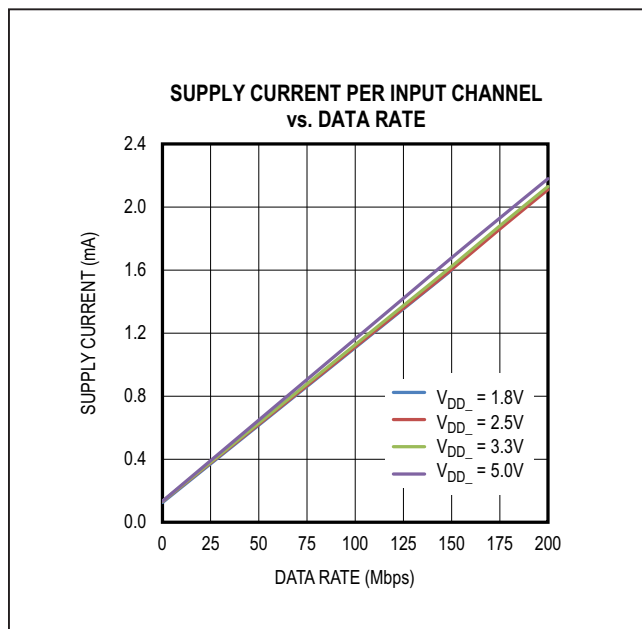
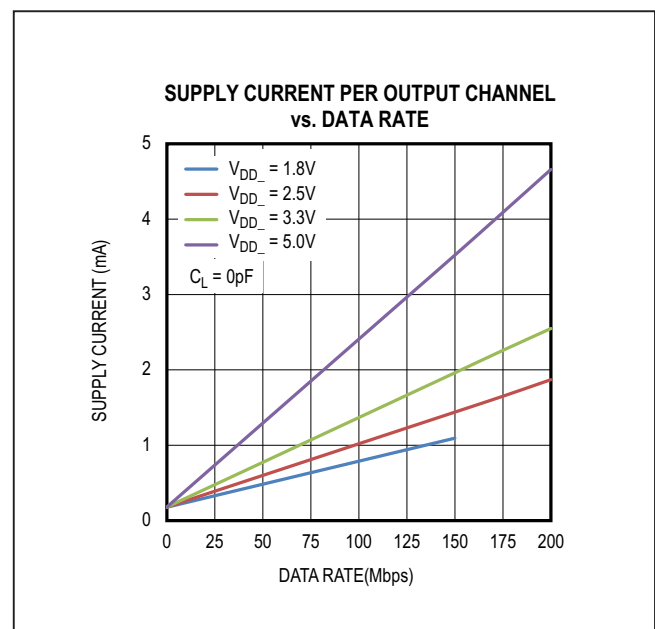

Figure 9. Supply Current Per Input Channel (Estimated)
Figure 10. Supply Current Per Output Channel (Estimated)
The required current for a given supply (V_{DDA} or V_{ddb}) can be estimated by summing the current required for each channel. The supply current for a channel depends on whether the channel is an input or an output, the channel's data rate, and the capacitive or resistive load if it is an output. The typical current for an input or output at any data rate can be estimated from the graphs in Figure 9 and Figure 10. Please note the data in Figure 9 and Figure 10 are extrapolated from the supply current measurements in a typical operating condition.
The total current for a single channel is the sum of the “no load” current (shown in Figure 9 and Figure 10) which is a function of Voltage and Data Rate, and the “load current,” which depends on the type of load. Current into a capacitive load is a function of the load capacitance, the switching frequency, and the supply voltage.
- Channel 1 is an input channel operating at 2.5V and 20Mbps, consuming 0.33mA, estimated from Figure 9.
- Channel 2 and 3 are input channels operating at 2.5V with DC signal, consuming 0.13mA, estimated from Figure 9.
- Channel 4 is an output channel operating at 2.5V and 100Mbps, consuming 1.02mA, estimated from Figure 10.
- Channel 1 is an output channel operating at 3.3V and 20Mbps, consuming 0.42mA, estimated from Figure 10.
- Channel 2 and 3 are output channels operating at 3.3V with DC signal, consuming 0.18mA, estimated from Figure 10.
- Channel 4 is an input channel operating at 3.3V and 100Mbps, consuming 1.13mA, estimated from Figure 9.